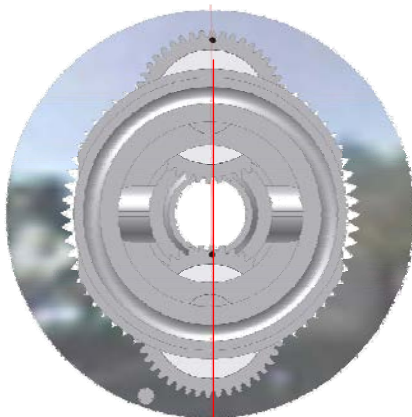

Figure 20
1. Reverse the above procedure and be sure to time the gears as indicated in Figure 20.